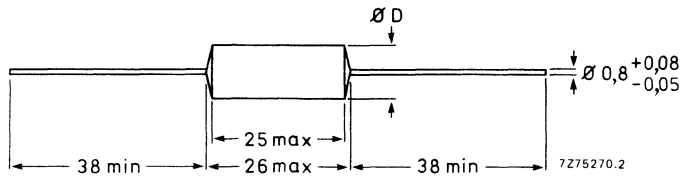

Fig. 1.
curve 3 = 3920 pF, according to Fig. 1; curve 4 = 3920 pF, according to Fig. 2;
curve 5 = 100 pF, according to Fig. 1; curve 6 = 100 pF, according to Fig. 2.
Table 1 U_R (DC) = 63 V; max. AC voltage = 25 V, Fig. 1.
Table 2 U_R (DC) = 160 V; max. AC voltage = 63 V, Fig. 1
Table 3 U_R (DC) = 250 V; max. AC voltage = 125 V, Fig. 1.
Table 4 U_R (DC) = 630 V; max. AC voltage = 250 V, Fig. 1.